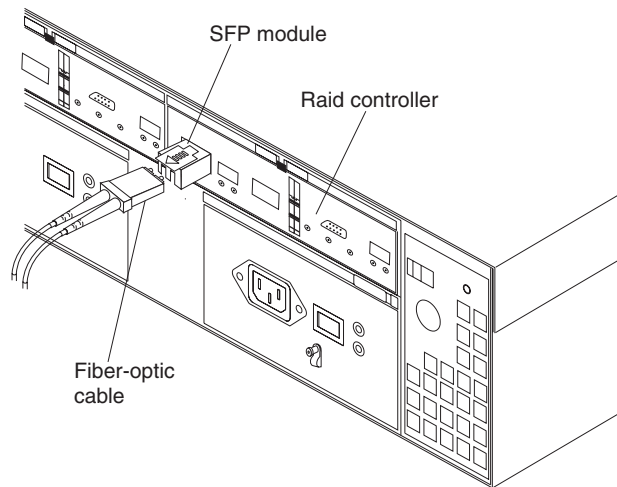

Figure 54. Location of SFPs and fiber-optic cables
9. From both RAID controllers to be upgraded, remove the fibre-channel cables from the SFPs. The location of these components is shown in Figure 54.